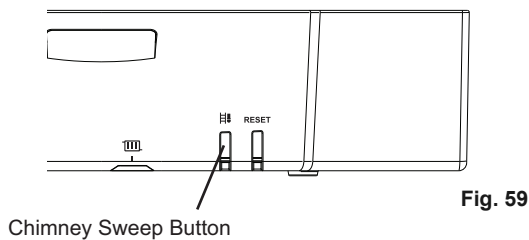

Fig. 59
1. The maximum rate CO2 setting can only be reached via the minimum rate. Press the Chimney Sweep (Fig. 59) button for approximately 3 seconds. The status signal for the Chimney Sweep button is orange and flashes green briefly to show that the minimum rate is selected.